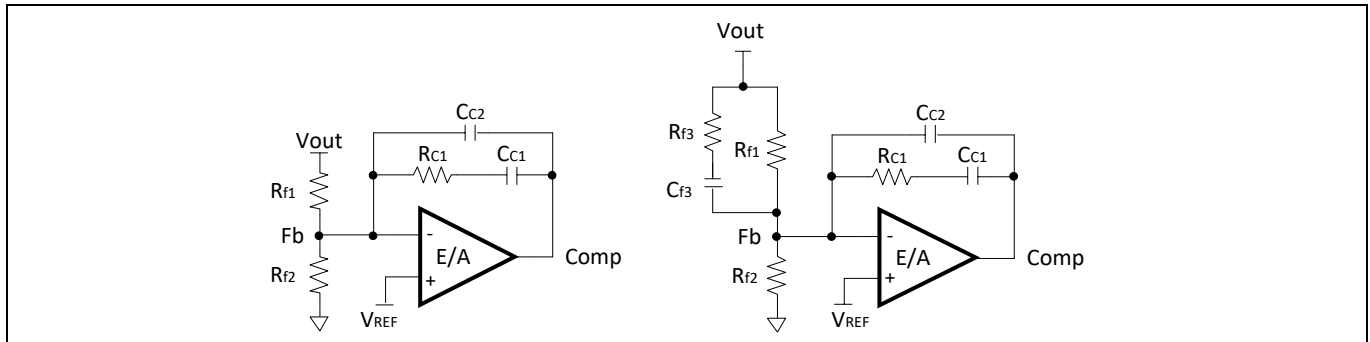

Figure 8 Loop Compensator: (Left) Type II, (Right) Type III
Two types of compensators are commonly used: Type II (PI) and Type III (PID), as shown in Figure 8. The selection of the compensation type is dependent on the ESR of the output capacitors. Electrolytic capacitors have relatively higher ESR. If the ESR pole is located at a frequency lower than the cross-over frequency, FC , the ESR pole will help to boost the phase margin. Thus, a type II compensator can be used. For the output capacitors with lower ESR such as ceramic capacitors, type III compensation is often desired.